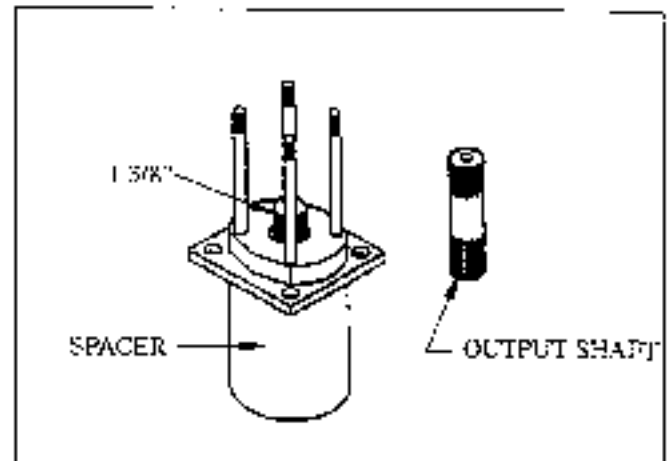

Figure 41
- Place the mounting plate assembly on a spacer as shown in Figure 41. Install the output shaft or "large dog bone" with the short spline up. Place shims under the shaft so that it extends approximately 1 3/8" above the wear plate.